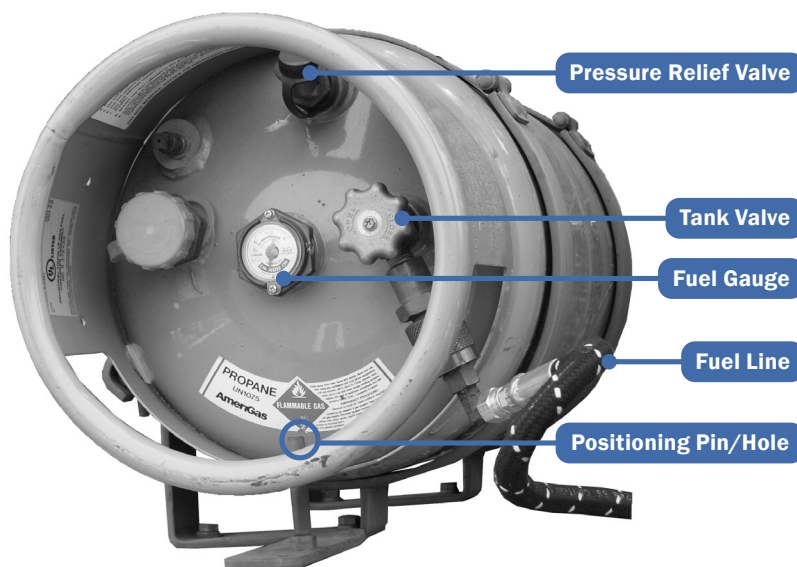

Figure 4.5. Propane tank properly positioned with pressure relief valve at the top of the tank and the positioning pin engaged.
- The propane tank is properly positioned (Figure 4.5).